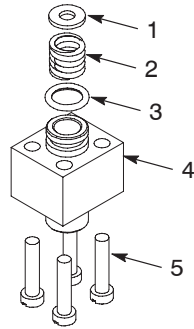

Figure 9-9 Removing the seat, O-ring, small compression spring, and lower seal support disk
3. See Figure 9-9. Remove the seat (4) and then remove the O-ring (3) from the seat. Discard the O-ring.
4. Remove the small compression spring (2) and lower seal support disk (1) from the bottom of the module body. You may need to use the retaining ring removal tool (or a similar tool).